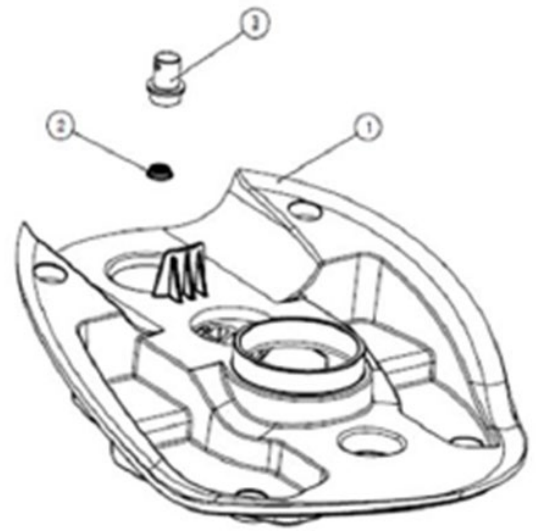

Figure 37.
1. Locate the loader assembly top cover (figure 37, part 1) under the solution tank.
2. Remove the valve, (Figure 37, part 3) by turning it counter-clockwise.
3. Remove the particle filter (Figure 37, part 2) and run it under the warm water to clean it out. you may use a soft brush if it is heavily clogged.